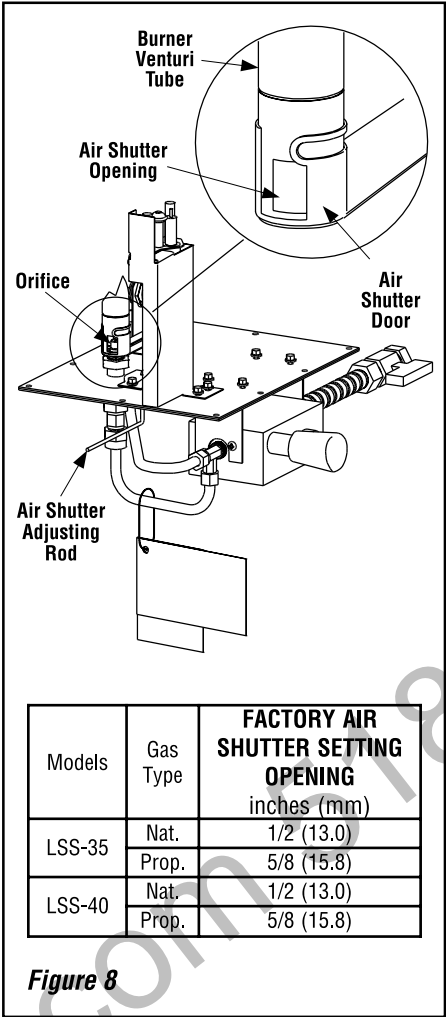

Figure 8
CAUTION: THE AIR SHUTTER ADJUSTMENT ROD (SEE FIGURE 8) AND NEARBY APPLIANCE SURFACES ARE HOT. EXERCISE CAUTION TO AVOID INJURY WHILE ADJUSTING FLAME APPEARANCE.
To adjust the flame, restate the air shutter adjustment rod toward the back or toward the front of the fireplace (rod located in the lower control area). Position the air shutter to the factory setting as shown in the Table of Figure 8. Allow the burner to operate for at least 15 minutes. Observe the flame continuously. If it appears weak or sooty as previously described, adjust the air shutter by pushing or pulling on the adjustment rod until the flame appearance is as desired.
* Adjustment to the air shutter may be required to get the desired flame appearance, (refer to Figure 8).